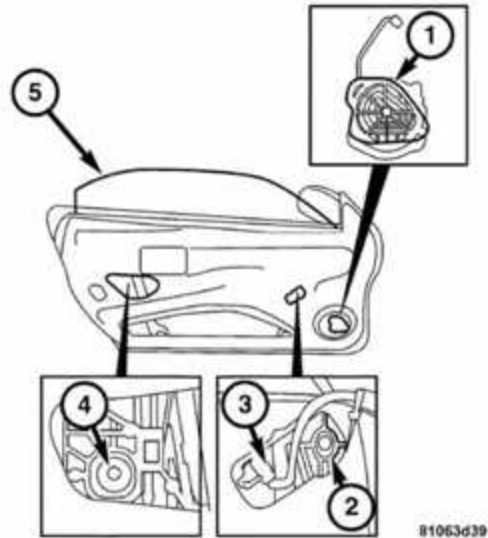

Fig. 6 WINDOW STOP BRACKETS
- 9. Lower the window so that the window stop bracket bolts are accessible through the cut outs in the door sheet metal (Fig. 6).
- 10. Loosen the bolts on both of the window stop brackets just enough so that the door glass can be moved up and down with some effort (Fig. 6).